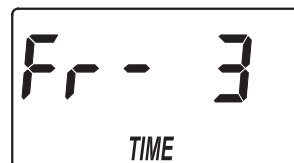

FIG. 28
2. Press the SELECT button three times, so that "Fr TIME" appears in the display (See Figure 28).